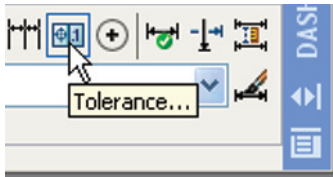
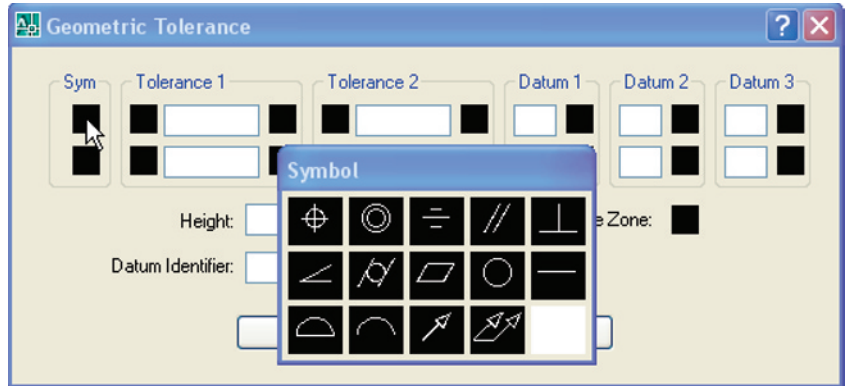

Fig. 6.26 The **Tolerance** tool icon in the **Dimensions** control panel
Fig. 6.27 The **Geometric Tolerance** dialog and the **Symbol** sub-dialog
3. Click the **Tolerance** tool icon (Fig. 6.26). The **Geometrical Tolerance** dialog (Fig. 6.27) appears.
4. In the dialog *click* the black box under **Sym**. The **Symbol** sub-dialog appears (Fig. 6.27) with a *click* on the top left-hand square.